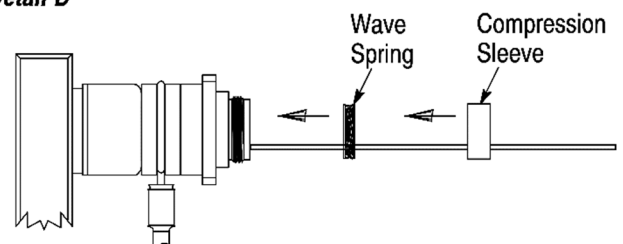

Figure 10
7. Align the guide pins with the guide holes, and fit the EB insert installation tool onto the EB insert. See Figure 10, Detail A.
8. Using an applicator swab, apply a *thin film* of the Dow Corning grease around the O-ring of the EB insert and around the inside of the front seal on the inside of the housing (refer to Figure 10, Detail A). Remove any excess grease.
9. Align the internal key (small bar inside) of the housing with the keyway (slot along the side) of the EB insert, and slide the EB insert installation tool (with the EB insert assembly) into the front of the housing. See Figure 10, Detail B.
12. Secure the bench-mount assembly fixture to a stable work surface. Fit the housing onto the captive housing of the bench-mount assembly fixture, taking care not to dislodge the EB insert assembly from the housing. See Figure 10, Detail C.
13. Slide the wave spring and the compression sleeve into the housing. See Figure 10, Detail D.